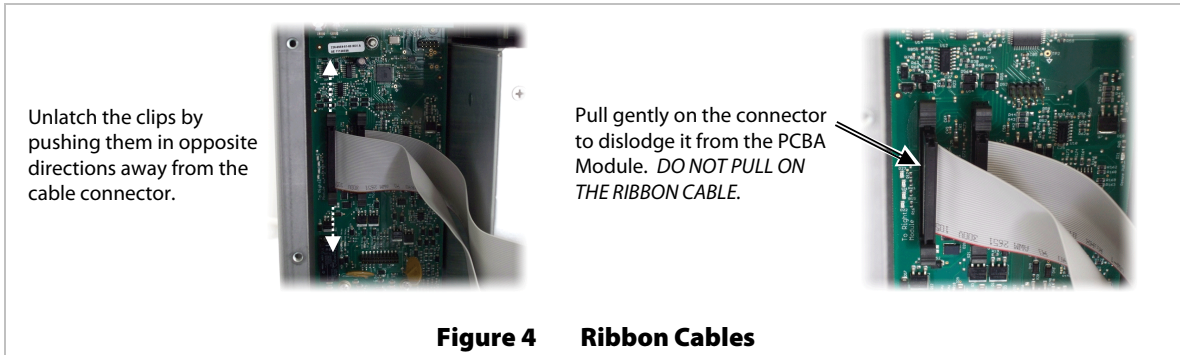

**Figure 3 Transformer and Fan Terminals**
3. The Power Module may have either four or six transformer wires connected to the PCBA Module, depending on Radian model (see image A in Figure 3). Additionally, the Radian models use different types of terminal blocks to secure the transformer wires.
4. Disconnect these wires by one of two methods, depending on the type of terminal strip. If the terminal strip has locking tabs, unlock them just as in Step 2. (See image B in Figure 3.) Pull the wires free from the terminals. If the terminal block does not have locking tabs, insert the screwdriver horizontally into the terminal block slot for each wire. Lever the screwdriver outward (from the back of the housing to the front). This releases the tension on the wires. Pull the wires free from the terminals. (See image C in Figure 3.)
1. The Power Module may have either two or three transformer wires connected to the PCBA Module, depending on Radian model (see image A in Figure 3). Additionally, the Radian models use different types of terminal blocks to secure the transformer wires.
3. Disconnect these wires by one of two methods, depending on the type of terminal strip. If the terminal strip has locking tabs, unlock them (pulling them to a perpendicular position so that they stand out from the board). Unlocking each tab releases the tension on the wire. Repeat for the remaining wire(s) connected to the module that is to be replaced. Pull the wires free from the terminals. (See image A in Figure 3.)
If the terminal block does not have locking tabs, insert the screwdriver horizontally into the terminal block slot for each wire. Lever the screwdriver outward (from the back of the housing to the front). This releases the tension on the wire. Repeat for the remaining wire(s) connected to the module that is to be replaced. Pull the wires free from the terminals. (See image C in Figure 3.)
4. Disconnect the fan wire from the PCBA Module for the Power Module that is to be replaced by pinching its connector and pulling to the right. Refer to Figure 3.